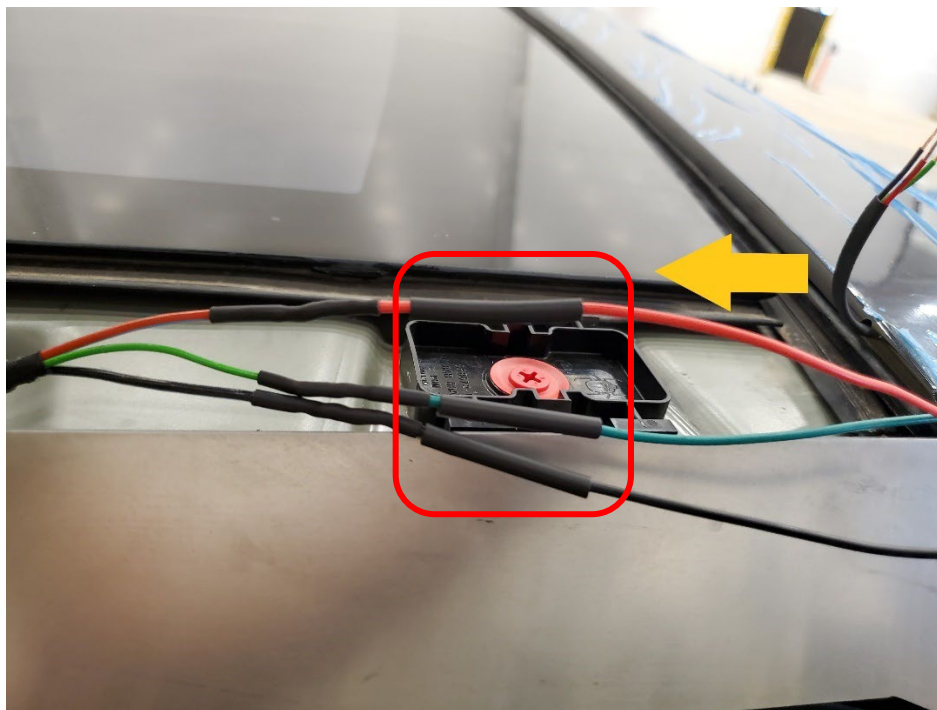

Figure 21 – Heat shrink tube position (2 of 2)
26. Slide the remaining heat shrink tubes (x3) over the off road lightbar jumper wires (x3) and move them aside (Figure 21).